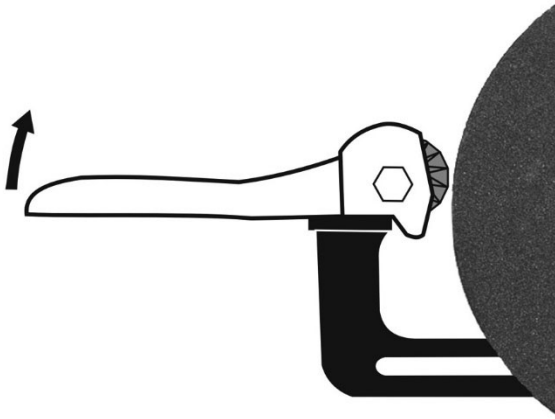

Figure 9-3: wheel dressing
1. Back off the tool rest enough to allow the dresser to hook over its inside edge (see Figure 9-3). Tighten tool rest in position.